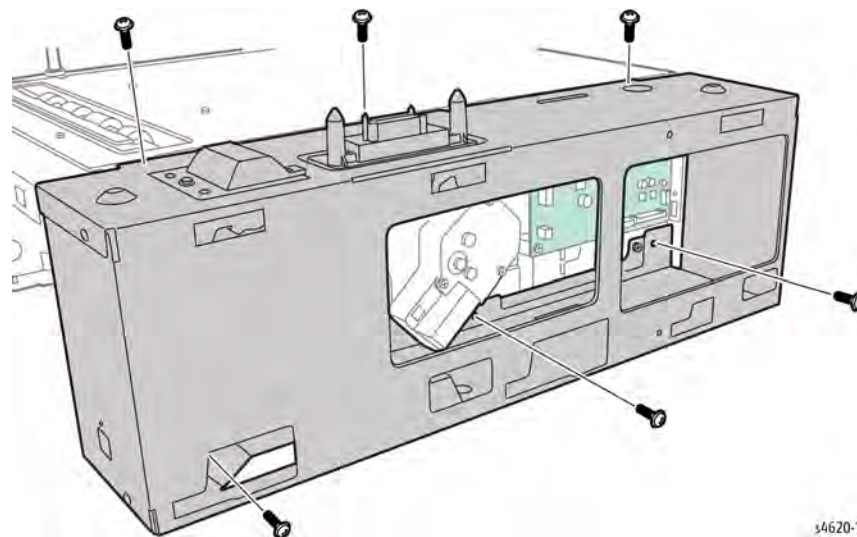

Figure 2 Remove the right side frame
7. Remove 7 screws (metal) that secure the left side frame to the chassis, Figure 2.